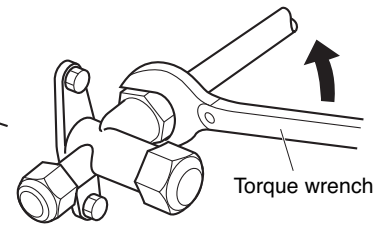

Fig. 60d
- To fasten the flare nuts, apply specified torque as Table 9 and Fig. 60d.